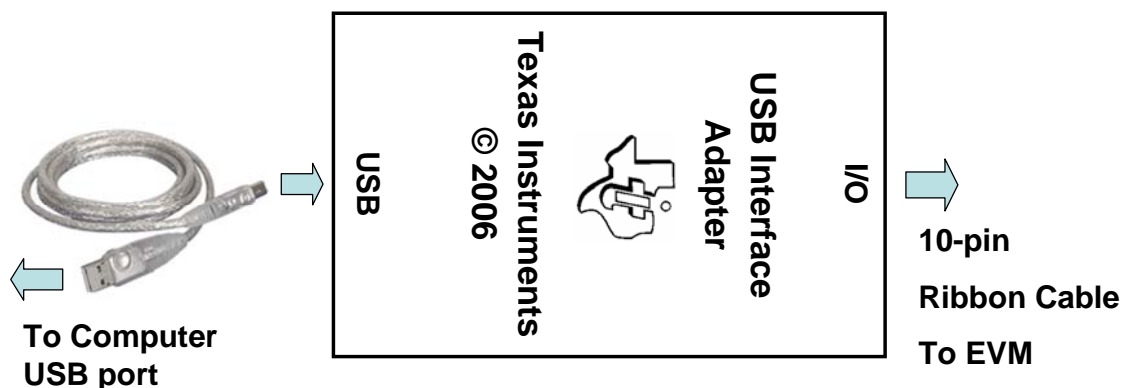

Figure 1. Connections of the HPA172 kit.
- F) Connect HPA172 USB Interface Adapter to the computer with a USB mini-cable and to J3 with the 10 pin ribbon cable. The connections are shown in Figure 1.